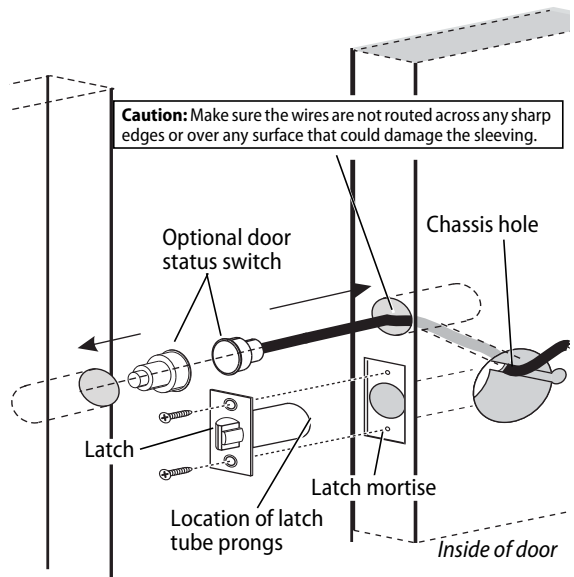

Figure 4 Installing the latch in the door
- 4 Install the latch in the door as shown in Figure 4.
- 5 For optional door status switch: Position the bit inside the hole. Then drill a 3/8" (10mm) channel at an angle that will connect the door status switch hole to the chassis hole as shown in Figure 4.
- 6 Press fit both switch pieces as shown in Figure 4.